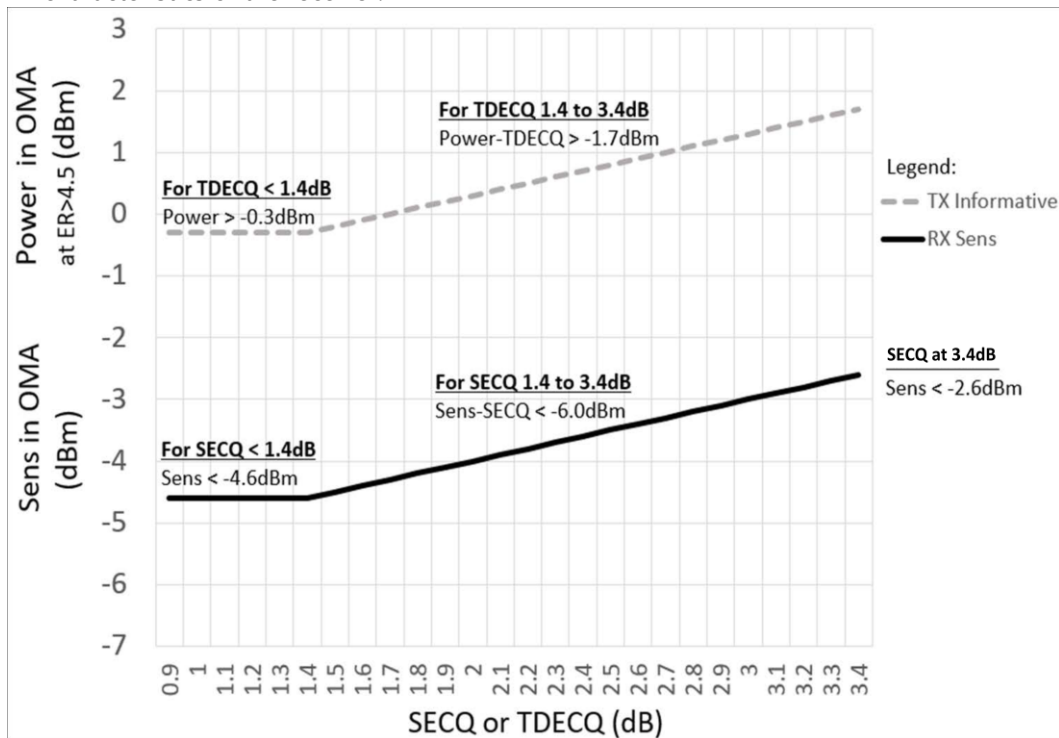

Figure 4. Stressed Receiver Sensitivity Mask for 400G-FR4
5. Measured with conformance test signal for BER = 2.4x10⁻⁴. A compliant receiver shall have stressed receiver sensitivity (OMA_{outer}), each lane values below the mask of Figure 4, for SECQ values between 0.9 and 3.4 dB.